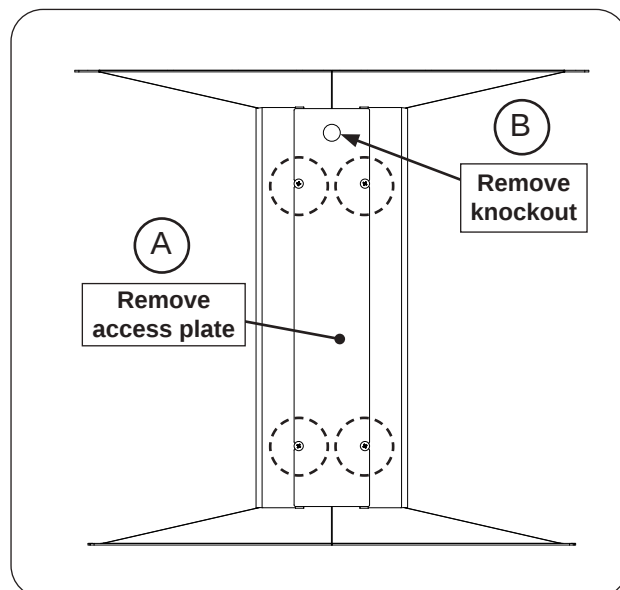

Fig. 25-1 Remove access plate and knock-out
2. Locate the rear access plate on the post base assembly and remove it by unscrewing the four Phillips-head screws. See Fig. 25-1, A.
3. Remove the knockout from the upper portion of the access plate. See Fig. 25-1, B.